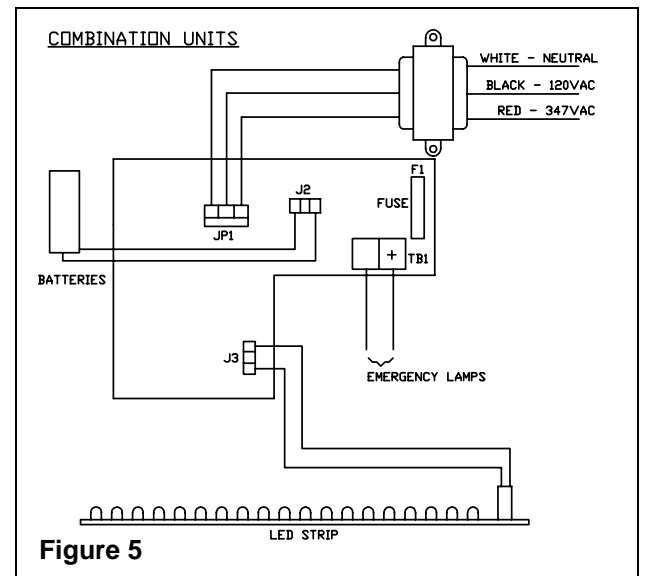

Figure 5
**Combination unit** — Make the proper connections according to fig.5. The unit accepts AC voltages of 120 or 347V.